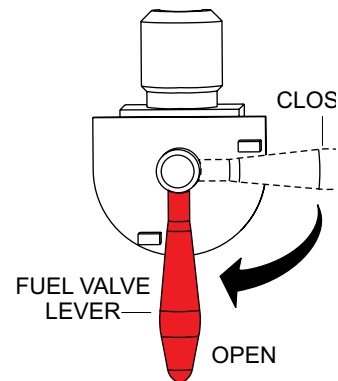

Figure 8. Fuel Valve Lever (Open)
- Place the fuel valve lever (Figure 8) in the **OPEN** position.